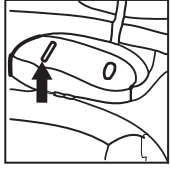

Fig. 8
6. Firmly hold the blower before turning ON. Turn ON the motor setting the switch in the 'I' (ON) position (Fig. 8)